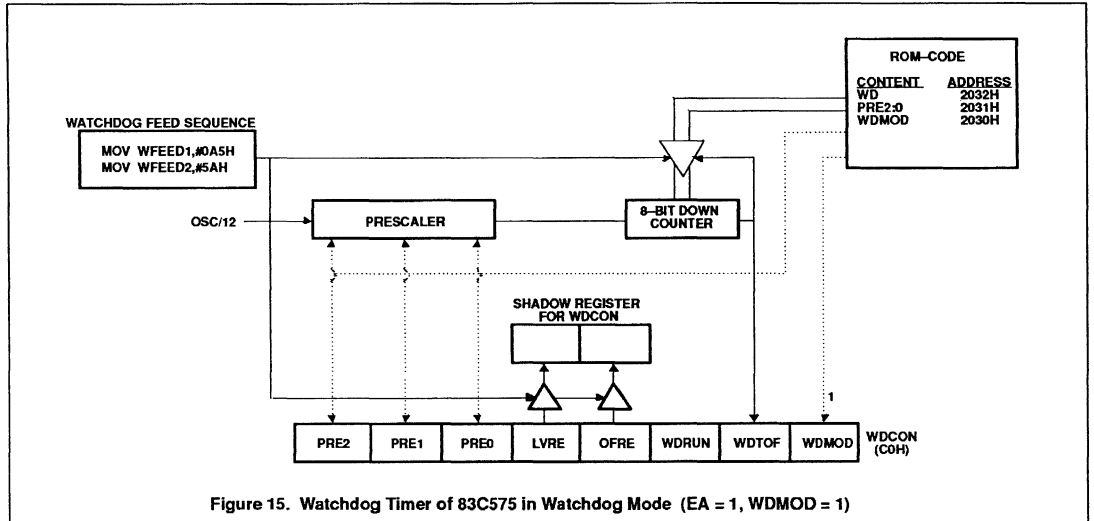

Figure 15. Watchdog Timer of 83C575 in Watchdog Mode (EA = 1, WDMOD = 1)
In the mask ROM device, the watchdog mode bit (WDMOD) is mask programmed and the bit in the watchdog command register is read only and reflects the mask programmed selection. If the mask programmed mode bit selects the timer mode, then the watchdog run bit (WDRUN) operates as described under EPROM Device. If the mask programmed bit selects the watchdog mode, then the watchdog run bit has no effect on the timer operation (see figure 15).
Automatic Address Recognition is a feature which allows the UART to recognize certain addresses in the serial bit stream by using hardware to make the comparisons. This feature saves a great deal of software overhead by eliminating the need for the software to examine every serial address which passes by the serial port. This feature is enabled by setting the SM2 bit in SCON. In the 9 bit UART modes, mode 2 and mode 3, the Receive Interrupt flag (RI) will be automatically set when the received byte contains either the "Given" address or the "Broadcast" address. The 9 bit mode requires that the 9th information bit is a 1 to indicate that the received information is an address and not data. Automatic address recognition is shown in Figure 15.